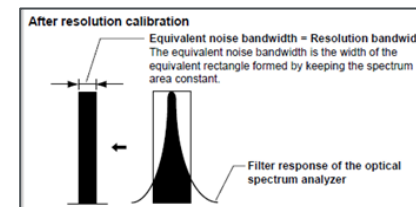

Fig. 3 Equivalent Noise bandwidth
- The resolution calibration function calibrates the resolution bandwidth of the OSA to the equivalent noise bandwidth (Fig. 3), using an external light source.